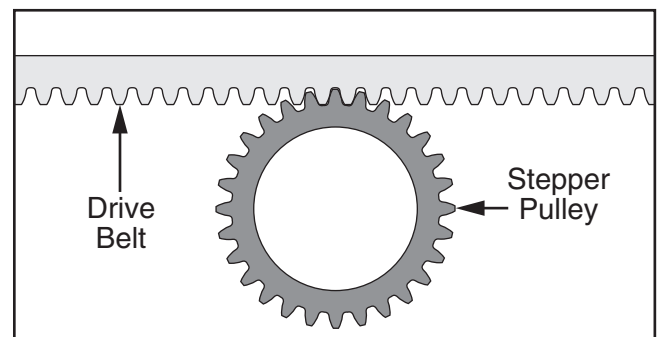

Figure 20. Stepper pulley meshed with drive belt.
6. Verify drive belt teeth have fully meshed with stepper pulley cogs (see **Figure 20**).